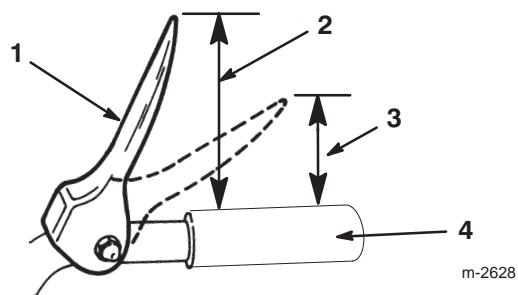

Figure 8
3. Adjust the flange locknut up or down on the upper traction rod until the distance between the top of the handgrip and the bottom of the traction control lever is approximately 5 inches (12.7 centimeters) as shown in Figure 8.
Note: The adjustment is correct when the wheels stop rolling backward and the distance between the top of the handgrip and the bottom of the traction control lever is 3 to 4 inches (7.6 to 10.2 centimeters) as shown in Figure 8.